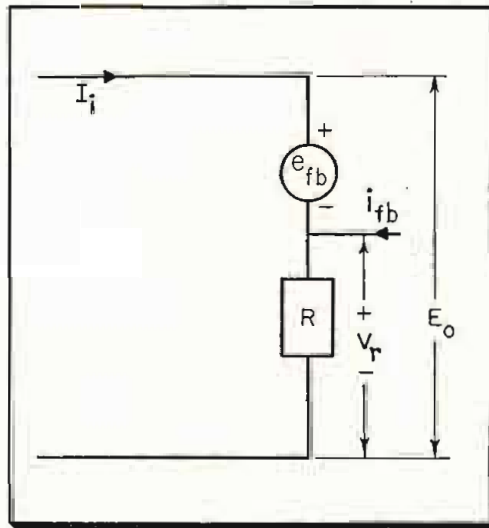

Fig. 3: Generalized circuit with feedback
sockets in assemblies to be dip-soldered have been devised by modifications of commercial sockets and parts. Sketches are shown in Fig. 3.
Tube shielding, when required, may be of the conventional type, riveted to a grounding strip or area provided in the etch pattern; or, as shown in Fig. 3, shield fastening can also be adapted to solder-dip assembly without recourse to rivets.
The circuit of Fig. 3 represents a general circuit using a feedback voltage and a feedback current to obtain a new voltage-current curve:
From (8) we can see the relation between E_o and I_i . In order that the curve of Fig. 2 represent the circuit of Fig. 3, then, all that is necessary is to relabel the ordinate and abscissa $E_o - \rho I_i$ and $I_i + \gamma V_r$ respectively. This step is, of course, apparent from
the nature of the circuit of Fig. 3. We are not interested primarily in this curve but in a curve relating E_o and I_i directly. The relabeling of the axis, however, indicates a straightforward graphical method for transforming the curve of Fig. 2 to the desired curve.
It is evident that ρ has the dimensions of a resistance and γ those of a conductance or reciprocal resistance. We can visualize the circuit of Fig. 3 as having a resistor tied across the terminals marked V_r . This resistor which is in parallel with R will be called R_p . Similarly e_{fb} may be replaced by a series resistor which we call R_s . We may now relate the values of R_p and R_s to the other parameters. From (3) (4) (9) and (10) we have: